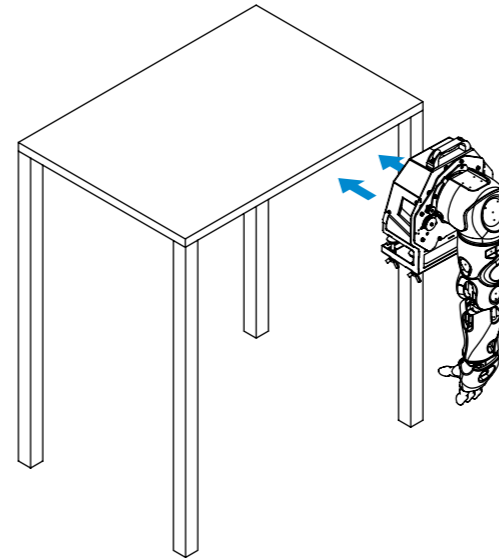

Figure 12.
4. Mount the bracket on the tabletop (Figure 12).